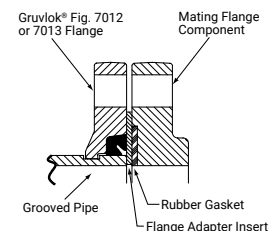

Fig. C2
**Note:** The Gruvlok Fig. 7012 Flange requires the use of a Flange Adapter Insert when used against rubber surfaces (Figure C1), serrated flange surfaces or mating flanges with inserts (Figure C2). The Flange Adapter Insert will be exposed to the fluids in the system. Ensure that the Insert is compatible with the fluids in the systems and with adjacent piping components.